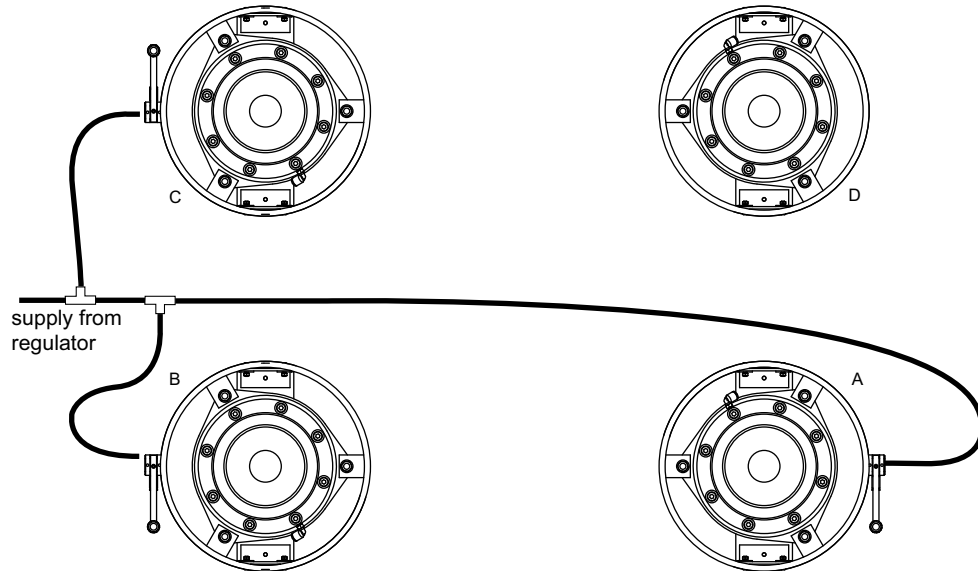

Fig. 3.3 Pneumatic connections
- Using the 6mm outside diameter nylon tubing and T-pieces supplied, connect the air supply to isolators A, B and C as shown in Fig. 3.3. The air supply should be connected to the lower connector on each self levelling valve.